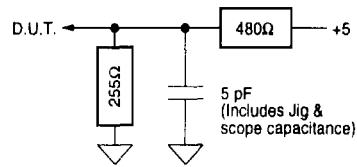

Figure 1b. Output Disable Timing Load
6. Transition is measured ±500 mV from steady-state voltage with load of Figure 1B. This parameter is sampled rather than 100% tested. At any given voltage and temperature, tCHZ max is less than tCLZ min for a given device and from device to device.